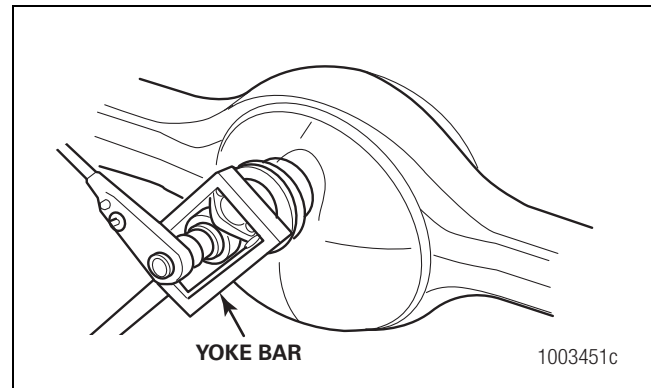

Figure 5.12
4. Install the nut that fastens the output yoke or flange to the thru-shaft. Place a holding tool on the yoke or flange and tighten the nut to 600-700 lb-ft (815-950 N•m). Figure 5.12.